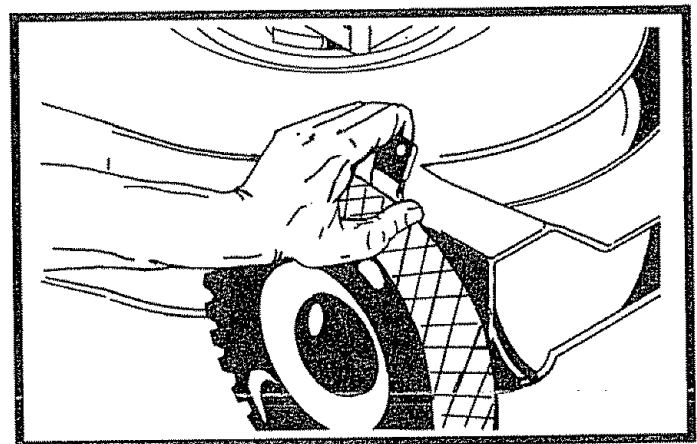

FIG. 7
- To change cutting height, squeeze Adjuster Lever toward Wheel. Move Wheel up or down to suit your requirements. Be sure all Wheels are in the same setting (See Fig. 7).